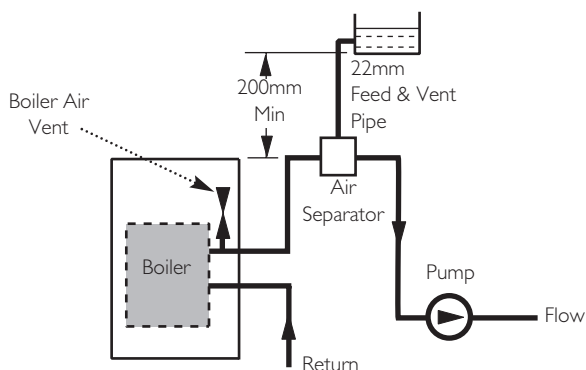

Fig. 12 Alternative Low Head Installation
2. For heads below 400mm then an alternative utilising a combined vent and feed pipe may be connected (Fig. 12). This must be a minimum of 22mm diameter. It is recommended that an air separator is fitted when using a combined feed and vent pipe.